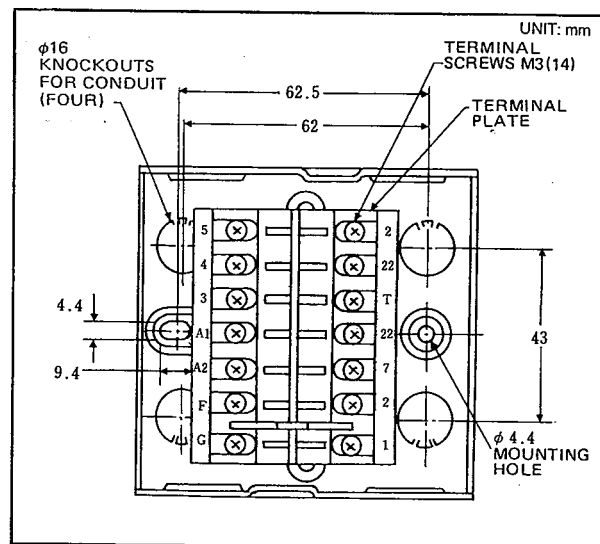
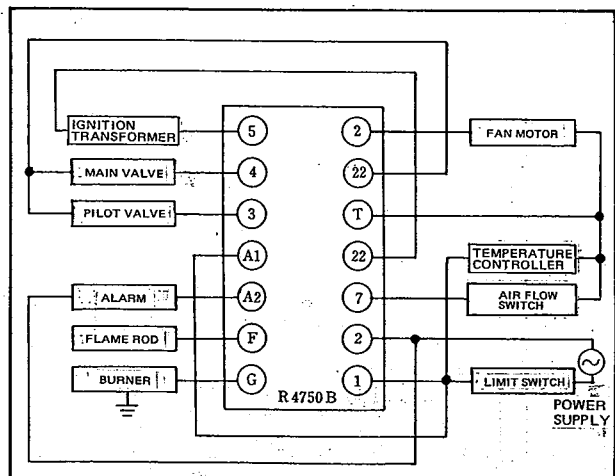

Fig. 2 Subbase mounting dimensions and terminal layout
Fig. 3 Example of wiring Protectorelay with external equipment
SUBBASE MOUNTING DIMENSIONS: See Fig. 2
- (1) As necessary, open the conduit knockout holes shown in Fig. 2, and install a wiring conduit.
- (2) Fix the subbase at the specified position with mounting screws.
- (1) Fig. 2 shows the layout of the terminals on the subbase, and Fig. 3 shows an example of wiring between the subbase and external equipment.